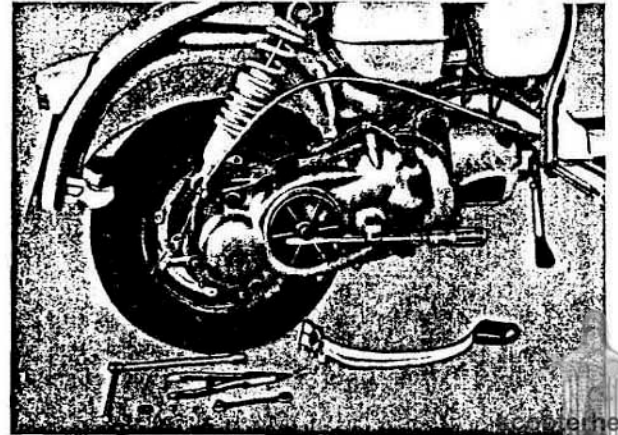

Fig. 2
- 4 Take off K/Start pedal, extract the circlip, unscrew the return spring fixing nut (10mm spanner), loosen the two pedal bolts (11 mm spanner), slide lever from its shaft, allowing the spring to unload gradually with the help of a screwdriver. See Fig. 2.